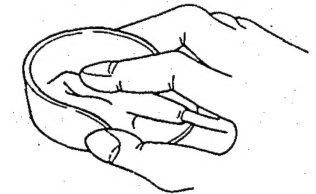

Fig. 5-1
- (5) Fit your forefinger over the projection at the center of the cap and hold the cap between your thumb and middle finger. (See Figure 5-1)